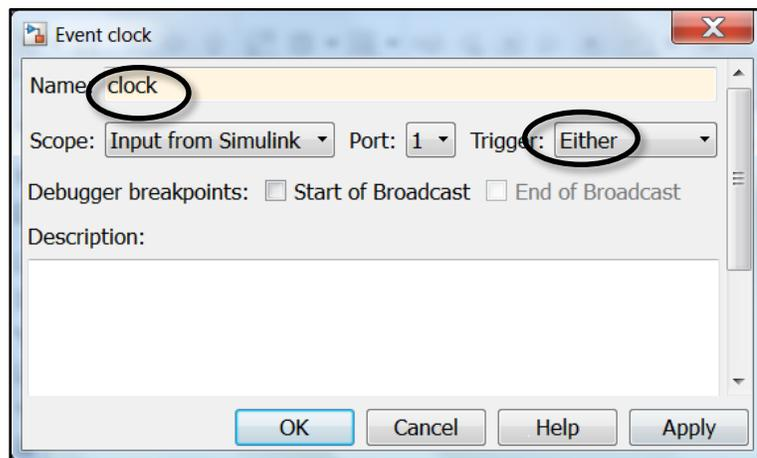

Figure 18. Modifying an event property.
- b) Change the entry for the “Name” to “clock”, plus change the selection of “Trigger” to be “Either” then click [OK] as shown in Figure 18.
Method 2: **[Right-Click]→[Explore]→[Add]→[Event]**, then modify entries to match those in Figure 18.